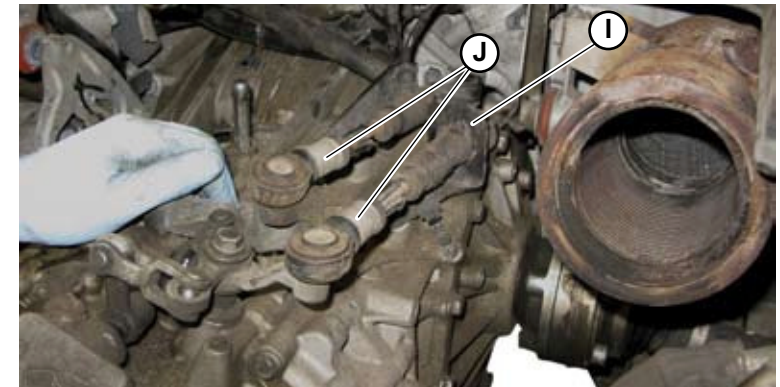

Fig.7
9. Position the gear selection cable support bracket (**I-Fig.7**) by tightening three screws.
10. Connect the two gear selection cables (**J-Fig.7**).